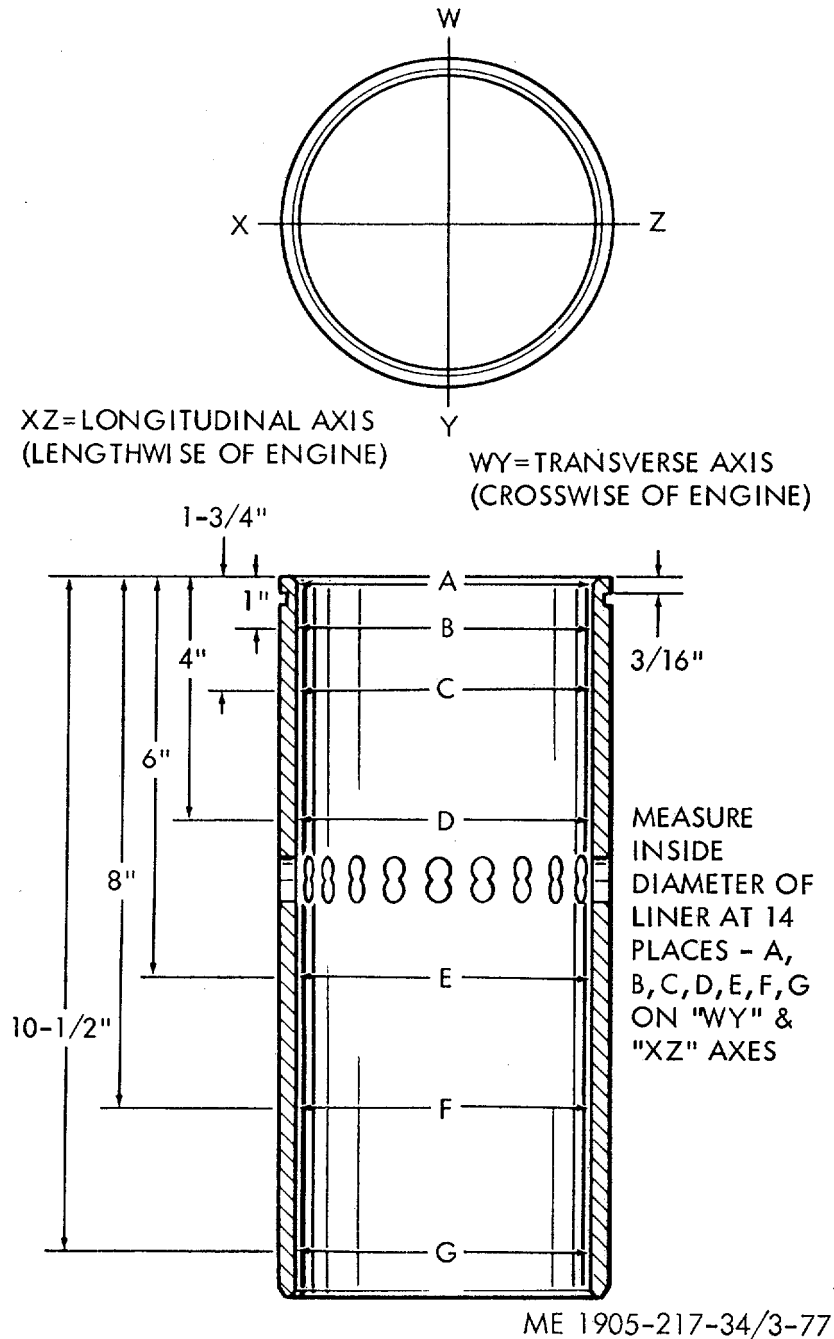

Figure 3-77. Cylinder liner measurement diagram.
(4) Examine the outside diameter of the liner for fretting. Fretting is the result of a slight movement of the liner in the block bore during engine operation, which material from the block to adhere to the liner. These metal particles may be removed from the surface of the liner with a coarse, flat stone.
(5) The liner flange must be smooth and flat on both the top and bottom surfaces. Check for cracks at the flange. The liner insert must also be smooth and flat on the top and bottom surfaces. Replace the insert if there is evidence of brinelling (cracking of surface).
(6) Measure the inside diameter of the liner at the various points indicated in figure 3-77. Use cylinder bore gage J 5347, which has a dial indicator calibrated in .0001 inch increments, as it is rather difficult to obtain accurate measurements with a micrometer. Set the cylinder bore gage to zero in master ring gage J 5580-1. Also, check the liner for taper and out-of-round. Measurements must be made with the liner installed in the proper bore of the cylinder block.
(3) Whenever a liner is honed, it should be placed in a fixture (a scrap cylinder block makes an excellent honing fixture). However, if it is necessary to hone a liner in the cylinder block that is to be used in building up the engine, the engine must be dismantled and then, after honing, the cylinder block and other parts must be thoroughly cleaned to ensure that all abrasive material is removed.
(4) Use 120 grit stones and hone the liner in a criss-cross pattern that produces hone marks on a 45° axis. This operation may be performed with emery cloth if a hone is not available.
(5) After the liner has been honed, remove it from the fixture and clean it thoroughly. Then, dry it with compressed air and check the entire surface for burrs.
(6) After honing, the liner must conform to the same limits on taper and out-of-round as a new liner, and the piston-to-liner clearance must be within the specified limits shown in table 2, chapter one.
e. *Inspection of New Cylinder Liner.* Install the cylinder liner in place in the cylinder block and check it for: Inside diameter, out-of-round, and taper. Check the inside diameter at the various points shown in figure 3-77. The inside diameter of a new standard size liner is 4.2495 inches to 4.2511 inches. If the liner is more than .002 inch total indicator reading out-of-round, turn it 90° in the block bore and recheck. A new liner must also be straight from top to bottom within .001 inch. Refer to table 2, chapter one for the specified piston-to-liner clearance.